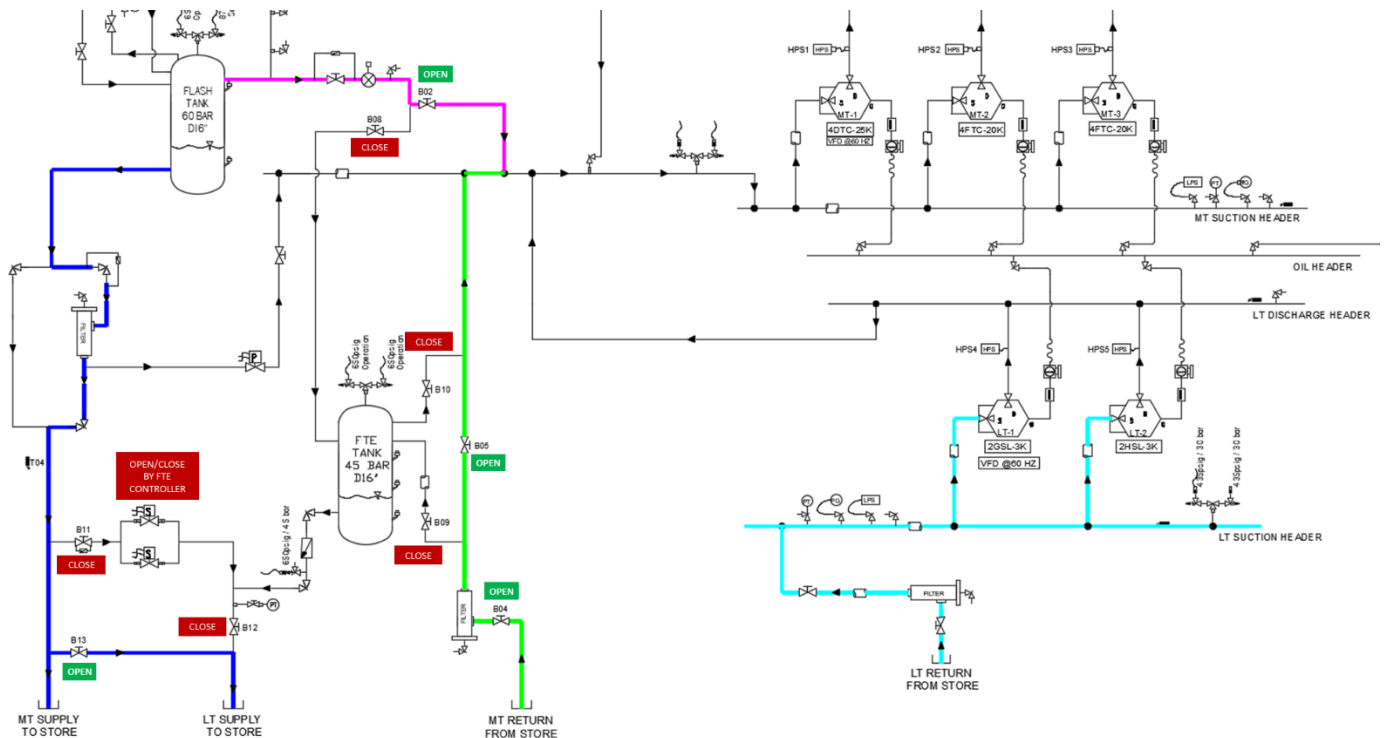

Figure 3.0
- 12- Valves open/close should look like same as figure 3.0 (here below for reference).